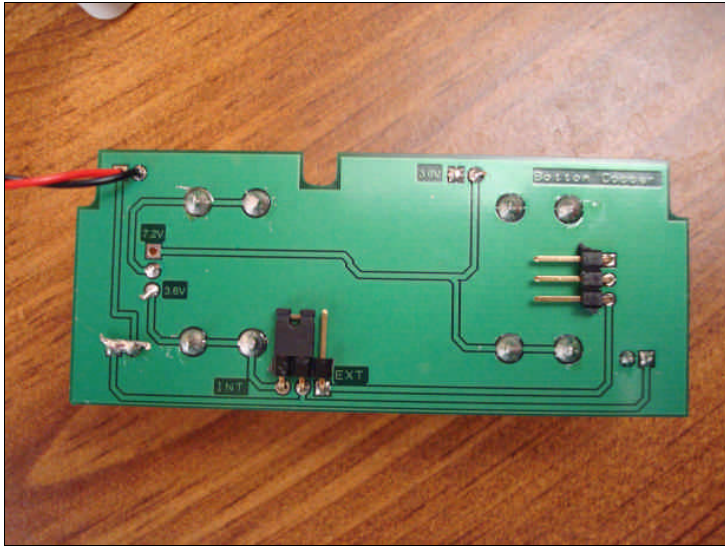

Figure 19: Rear of battery circuit board setup for batteries, which is the default setting from our factory.
**Figure 19** shows the rear of the battery circuit board. In particular, you should note two items. First, there is a jumper set to "INT," which stands for internal power; i.e., batteries. This is the default setting.